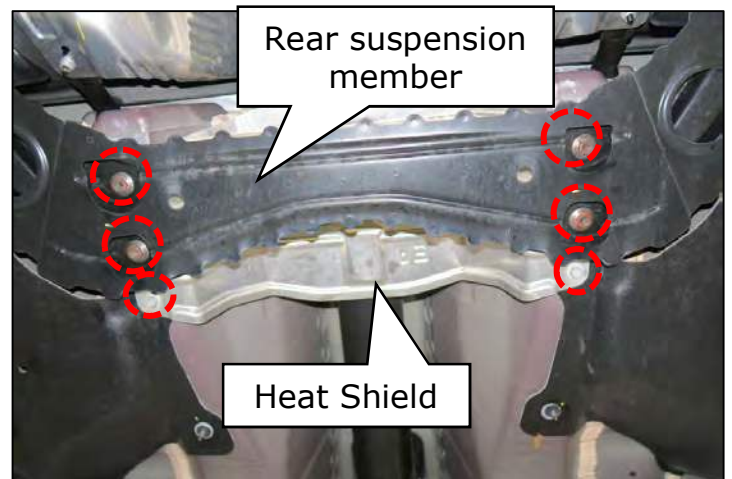

Figure 9
11. Remove the (4) bolts from the rear suspension member and the (2) heat insulator (heat shield) bolts. (Figure 9)